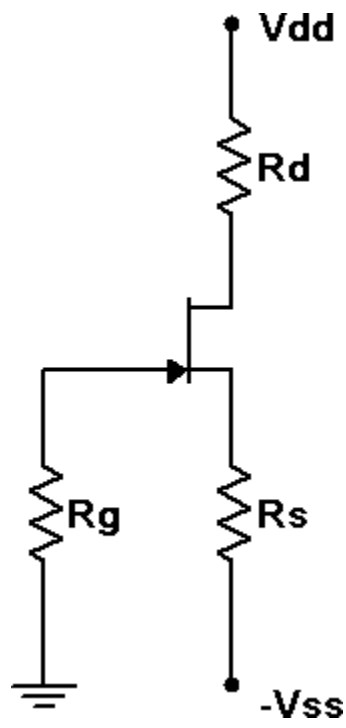

Figure 3
6. Consider the circuit of Figure 3 using  $V_{DD} = 15$  volts,  $V_{SS} = -3$  volts,  $R_d = R_s = 4.7\ k\Omega$  and  $R_g = 330\ k\Omega$ . A reasonable approximation for  $V_{GS}$  in this circuit is  $-2$  volts DC. Based on this, calculate and record the expected voltages for JFET 1 in Table 4. Also record the expected drain current in Table 5.
7. Build the circuit of Figure 3 using  $V_{DD} = 15$  volts,  $V_{SS} = -3$  volts,  $R_d = R_s = 4.7\ k\Omega$  and  $R_g = 330\ k\Omega$ . Measure and record the voltages for JFET 1 in Table 4. Based on  $V_D$ , compute and record the experimental drain current in Table 4. Also find and record the drain current deviation.
3. In general, identify two ways of decreasing the drain voltage in the circuit of Figure 3.